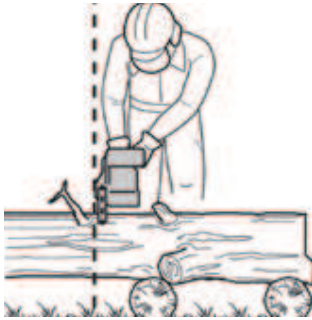

Fig. 25
2. Always hold the product firmly with both hands. Front handle (6) with the left hand and rear handle (1) with the right hand. Fully grip both handles at all times during operation. Never operate the product using only one hand.
3. Only use the product with a secure stance. Hold the product at the right-hand side of your body (Fig. 25).